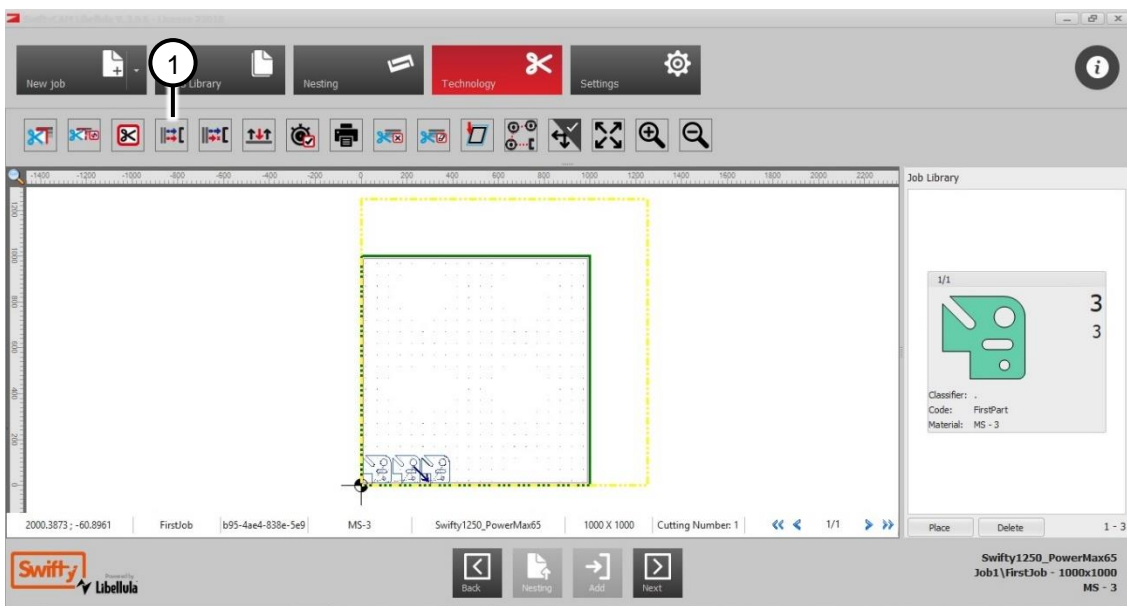

Fig 56 Technology screen
2. Lead-ins can be modified using the 'Lead-in modify button (Fig 56 (1)). The position, type and size can be customised.